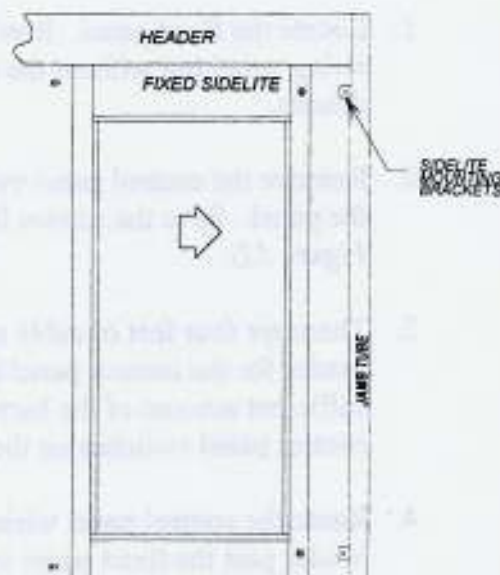

Figure 20
6. Position the panel onto brackets and fasten with the screws provided on the brackets (See Figure 20).